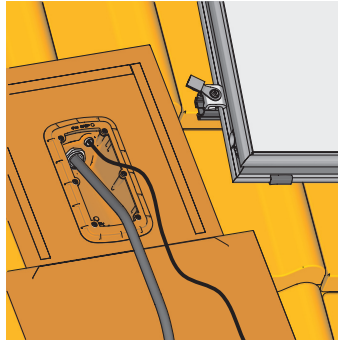

Fig. 3-30 Work step 8
8. Pull the inflow pipe (at the top of the solar panel Ø 15 mm) and the return flow pipe (at the bottom of the solar panel Ø 18 mm) through the M32 screw connection of the respective roof penetration point. Next, push the equipotential bonding cable and the solar panel temperature sensor cable through the respective M 16 glands from inside (Fig 3-30).